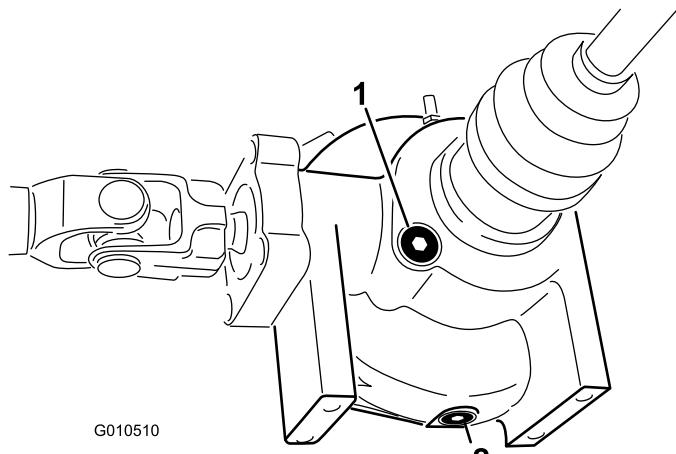

Figure 16
- Clean the area around the fill/check plug on side of the differential (Figure 16).